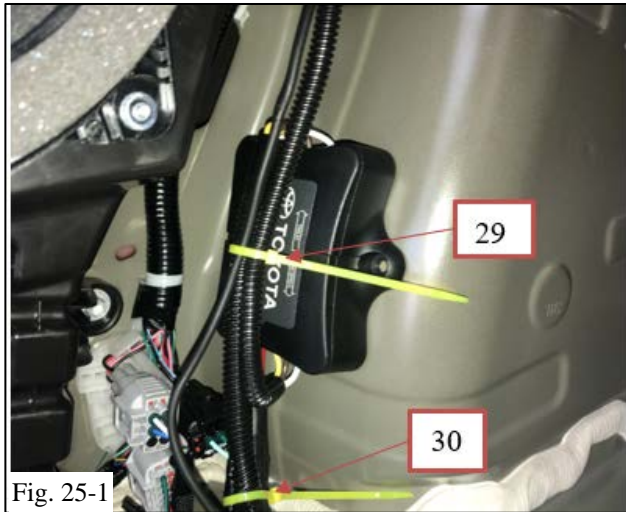

Fig. 25-1
- (a) Install the trailer electronic module in the trunk (Fig. 25-1).
- (e) Position the module against the wheel well as shown in Fig. 25-1, according to the dimensions described in the notes below.